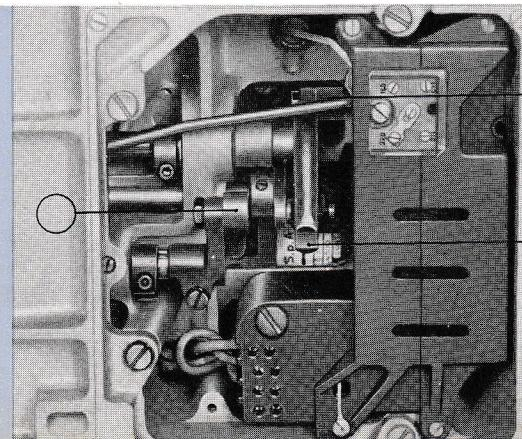

Fig. 8
- Tilt the machine backwards so that the underside is accessible and remove the cover plate which is held by four screws. Apply a drop of oil at all points indicated by pointers in Fig. 8.